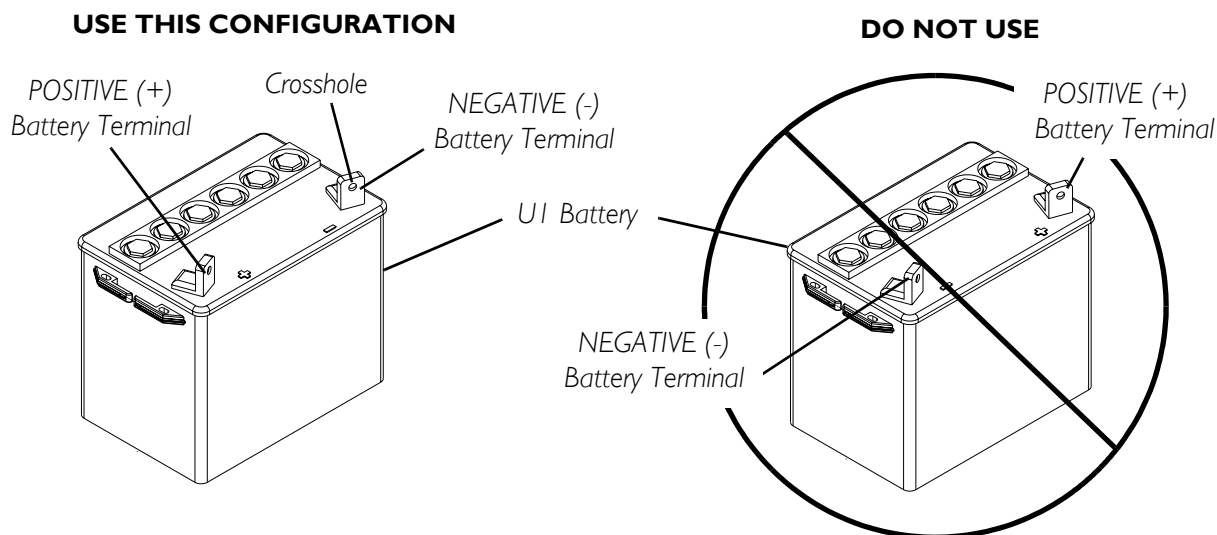

FIGURE 12.1 Using the Proper Batteries
NOTE: For this procedure, refer to FIGURE 12.1.
2. Visually draw a horizontal and vertical centerline through the middle of battery (FIGURE 12.1).
4. Visually inspect the battery to ensure the correct position of the POSITIVE and NEGATIVE terminals (FIGURE 12.1).
Batteries with terminal configuration as shown in **FIGURE 12.1** must be used. Batteries that have the reverse terminal configuration **MUST NOT** be used - otherwise injury and damage may occur.